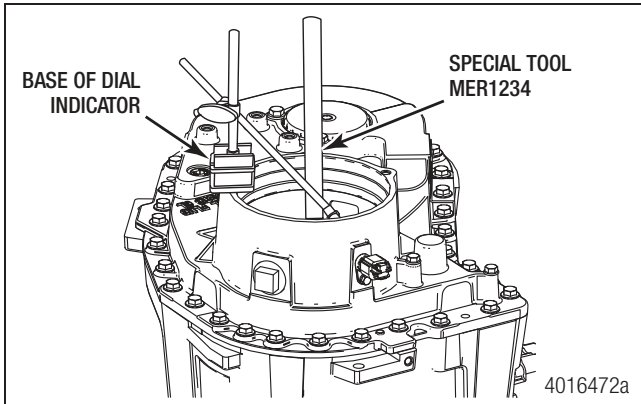
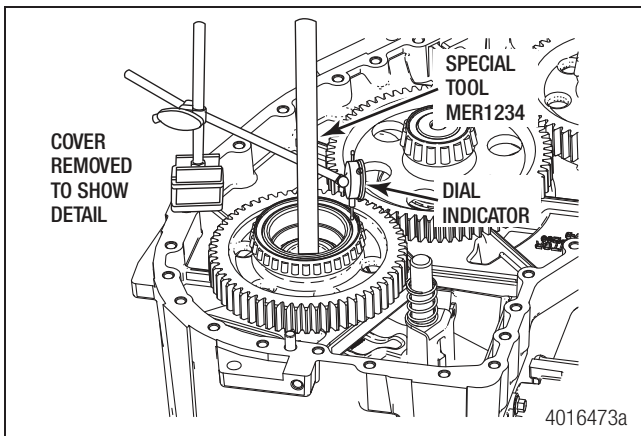

Figure 7.27
Figure 7.28
- a. A. Set dial indicator on input gear as shown, and use Meritor Special Tool "MER1234" as shown to lift the input gear. Tighten the adjuster ring as necessary until the end play is within the 0.002-0.006" range. Figure 7.27 and Figure 7.28.